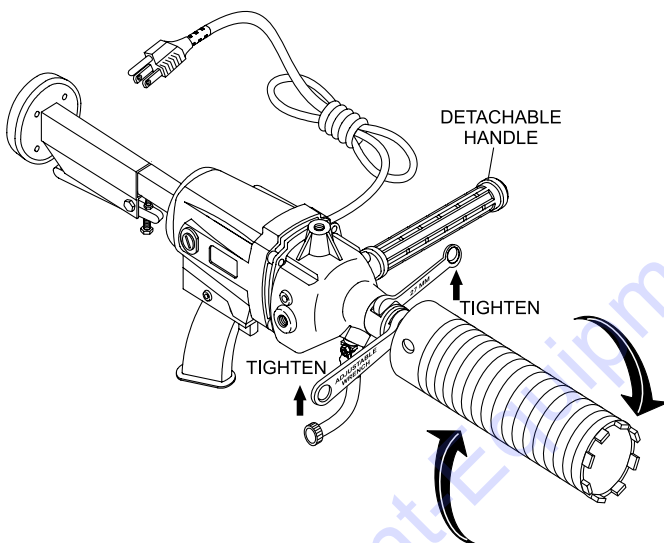

Figure 6. Attaching Core Bits to the Core Drill
3. Choose the proper core bit adapter (5/8"-11 or 1 1/4"-7) that matches the female end of the selected core bit, and thread it onto the drill motor output shaft utilizing the adjustable wrenches provided with the CDM1H (Figure 6).